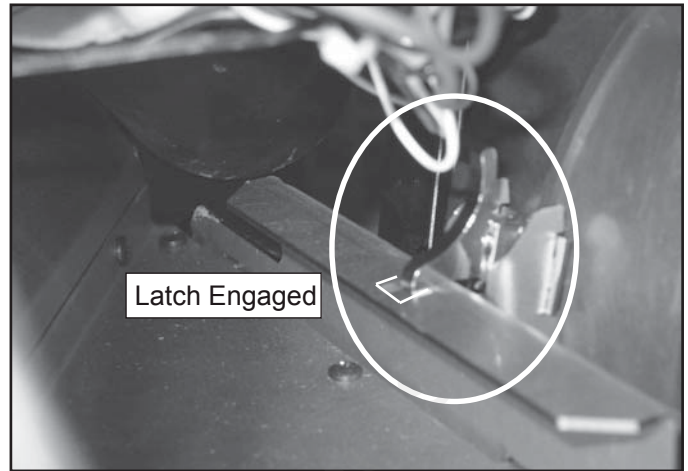

Figure 42.3
5. When the blower is properly positioned the latch will engage the notch to hold the blower in place. **Figure 42.3.**